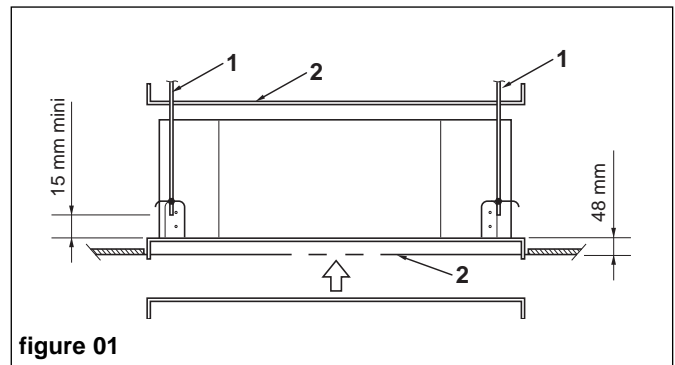

figure 01
- Use the drilling template provided (2) to determine the position of the suspension rods (1) and the hole to be made in the false ceiling (figure 01). For the suspension rods, use dia. 8 or 10mm threaded rod.
- The length of the suspension rods must be long enough to have distance of more than 15 mm between the bottom of the suspension rod and the bottom of the unit (figure 01).
- Adjust the distance between the unit and the top of the false ceiling (48 mm) using the nuts on the suspension rods (figures 01 and 03).